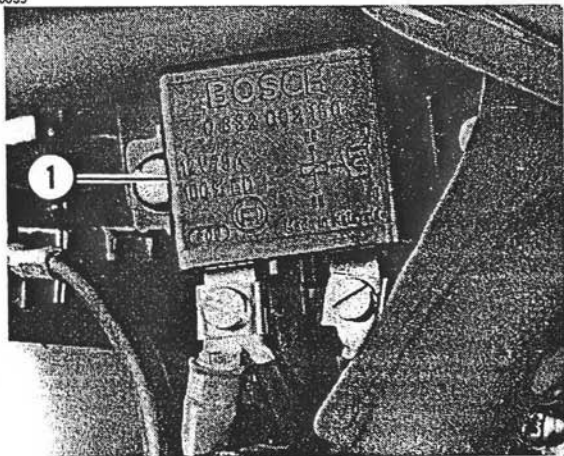

Figure 4-1. Starting Motor Relay
Step 6. See Figure 4-1. Remove right side panel. Check that all electrical leads are securely connected to starting motor relay (1). Clean and tighten loose connections. If any cables are missing or damaged, refer to *Service Manual* for replacement procedure.